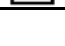

Figure 6-Connecting AC Adapter to Meter
2. Insert proper battery into compartment. Note the positive (+) and negative (-) terminals as indicated inside the battery compartment (See Figure 6). Be sure to insert the battery with matching polarity.